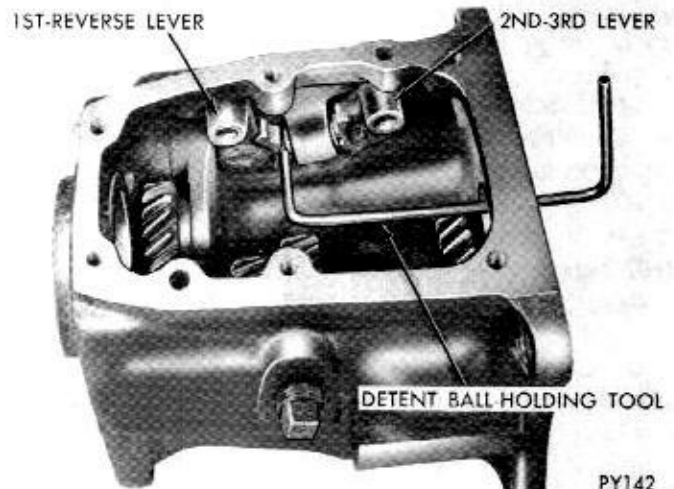

Fig. 27—Installing Shift Levers and Detent
(2) Install seal protector, Tool C-3767, on end of low and reverse lever shaft, then slide shaft into rear boss of case and through the seal. Lock in position with tapered pin. Turn lever until center detent is in line with interlock bore.
(3) Slide interlock sleeve in its bore in case followed by one of the interlock balls. Install interlock spring and pin.
(4) Place remaining interlock ball on top of interlock spring, using Tool C-3765 (Fig. 27). (A good method of installing second ball is to stick ball in tool recess by means of lubricant, then use tool to position ball on detent spring.)
(5) Install seal protector Tool C-3767, on second and high lever shaft. Depress interlock ball, using Tool C-3765 and at same time, install second and high lever shaft with center detent aligned with detent ball. Remove the tool. Secure lever shaft with remaining tapered pin.
(6) Install operating levers and tighten retaining nuts to 18 foot-pounds.